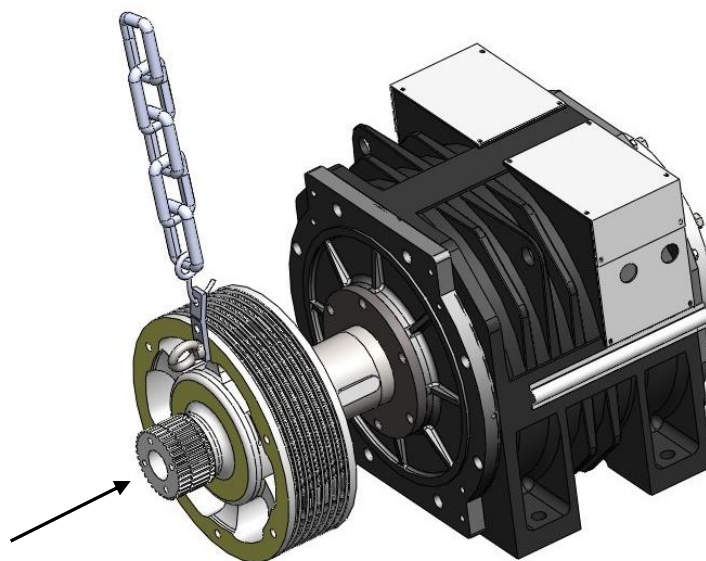

Figure 59: Locate sheave
2. Hoist the sheave and align the keyway of the sheave with the key, then pull it into the machine shaft. Use the hydraulic jack apparatus to press the sheave on with 15 tons of pressure. See Figures 59 and 60.